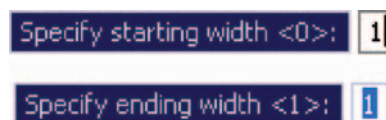

Fig. 3.28 Dynamic Input – first example – Polyline – *entering* widths
4. Another prompt field appears. At the keyboard *enter* the required width and *right-click*. Then *left-click* and *enter* **ending width** or *right-click* if the **ending width** is the same as the **starting width** (Fig. 3.28).